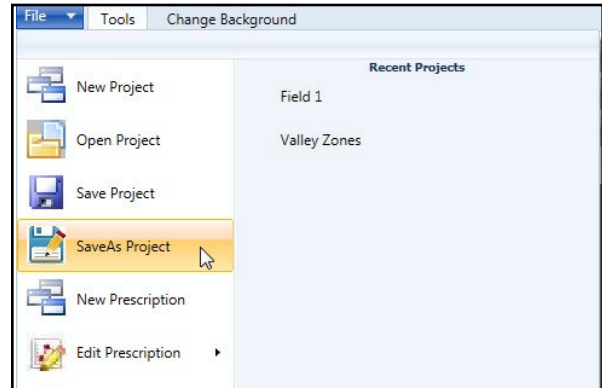

Figure 29-1 VRI Drop-down Menu
1. Click on the VRI drop-down menu, and select **SaveAs Project**. See Figure 29-1.